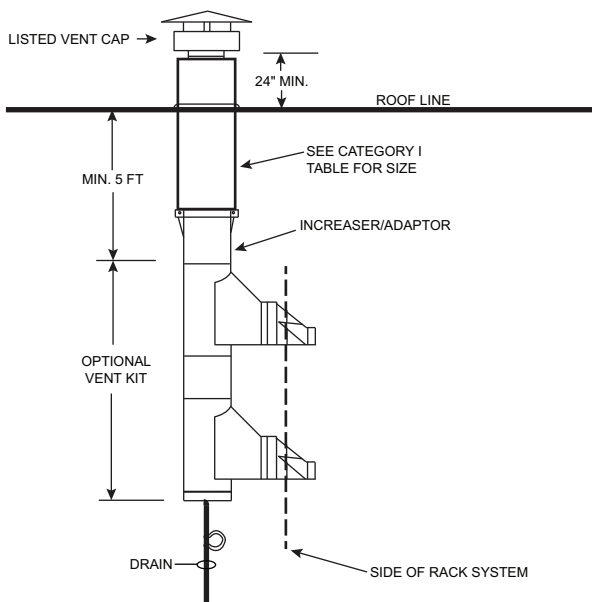

Fig. 157 — Category 1 Indoor Vertical Vent System
- See Fig. 157 for Category 1 indoor vertical vent system.